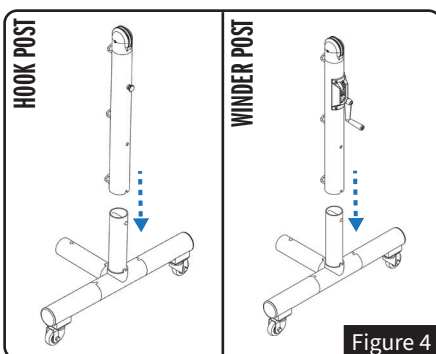

Figure 4
- Insert the **Hook Post (Part C)** into the **Tri-Link (B)** by pressing the **spring button** and sliding it into place.
- Repeat for the **Winder Post (Part D)**. See *Figure 4*.